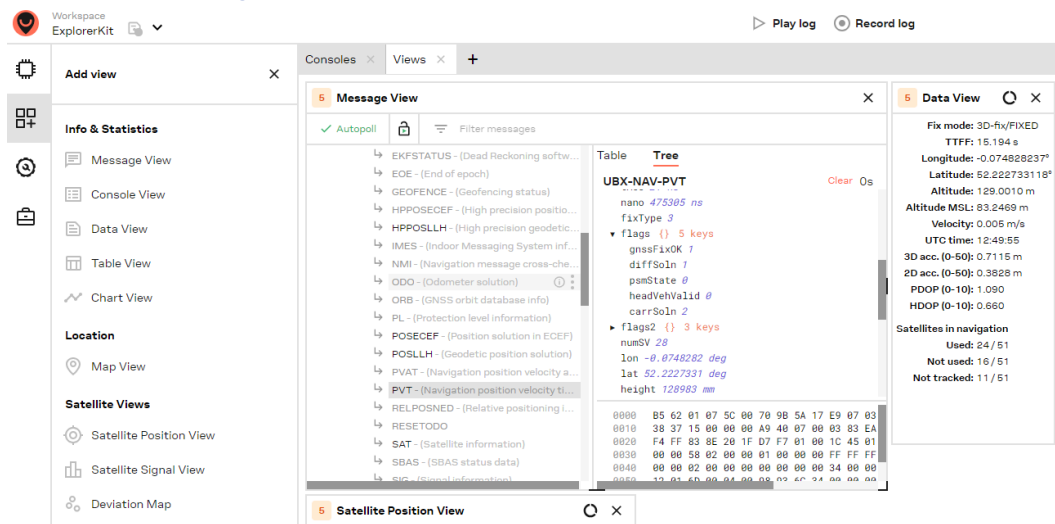

Figure 38: Rover in u-center 2 data view with RTK Fixed
- Once the rover has started receiving valid RTCM messages, it transitions through 3D Fix to 3D/DGNSS to Float, and, ultimately, into Fixed mode. This occurs when it has received all required RTCM messages, including RTCM 1005 or 1006, under sufficient signal conditions. See Figure 38.